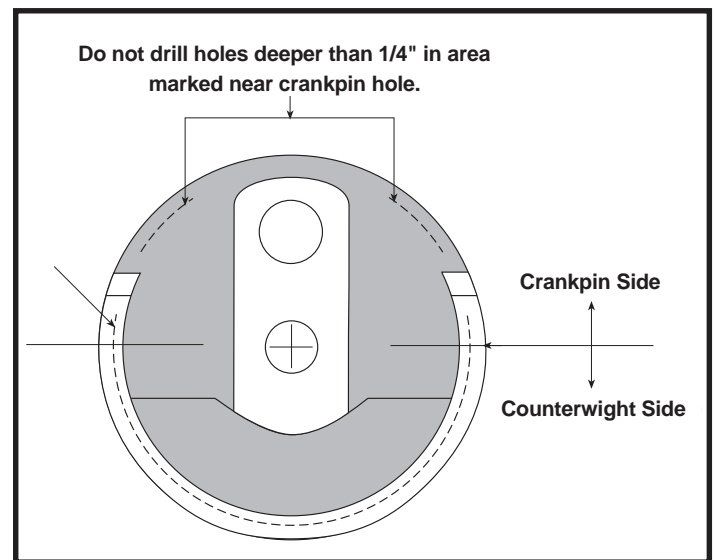

Figure 4
- E. Before drilling see **Figure 4** for recommended areas to drill. See notes on page 7 for drilling rules and additional information.
- Drill holes in center of face along dotted line in diagram. (See **Figure 4**) Leave  $\frac{3}{16}$ " of material to avoid breaking out of back side of flywheel.